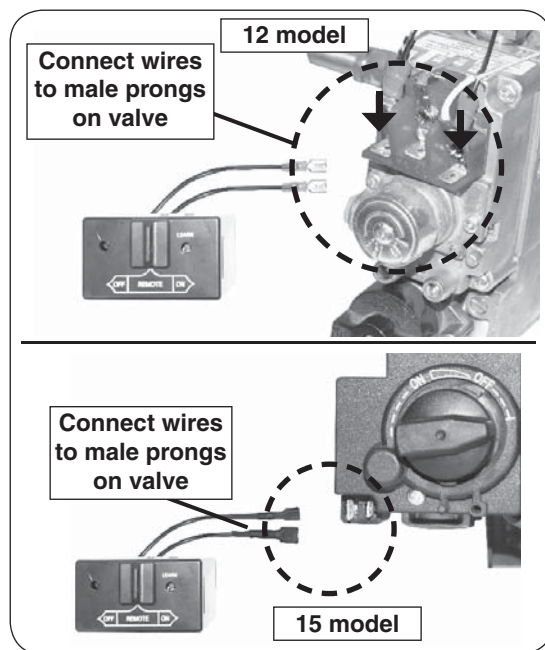

Fig. 20-3 Connect remote receiver to valve
2. Locate the wires coming off of the remote receiver, and connect them to the two male prongs found on the valve (see Fig. 20-3).